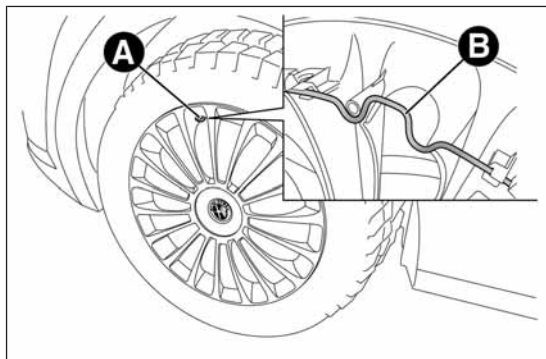

fig. 116
- **for versions with steel rims:** insert the screwdriver in the opening A fig. 116 in order to trigger the hub cap retaining clip B;